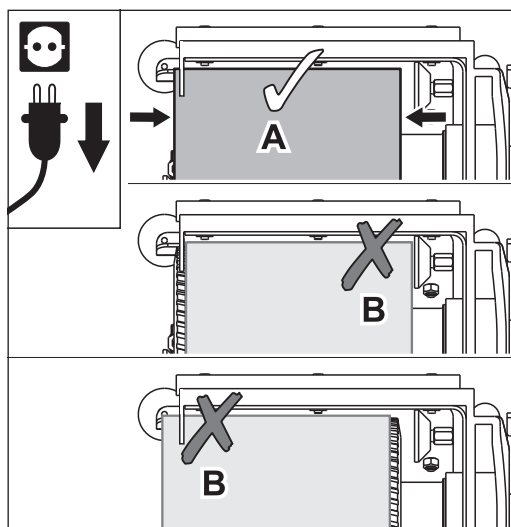

Fig. 10 Position the sanding belt so that it evenly covers the sanding drum (A). Avoid position B without fail (FIRE DANGER)! Similar to figure.
- 10 Position the sanding belt so that it evenly covers the sanding drum (Fig. 10, A).
Position B of the sanding belt in Fig. 10 provoke sparking during sanding! Avoid this without fail!